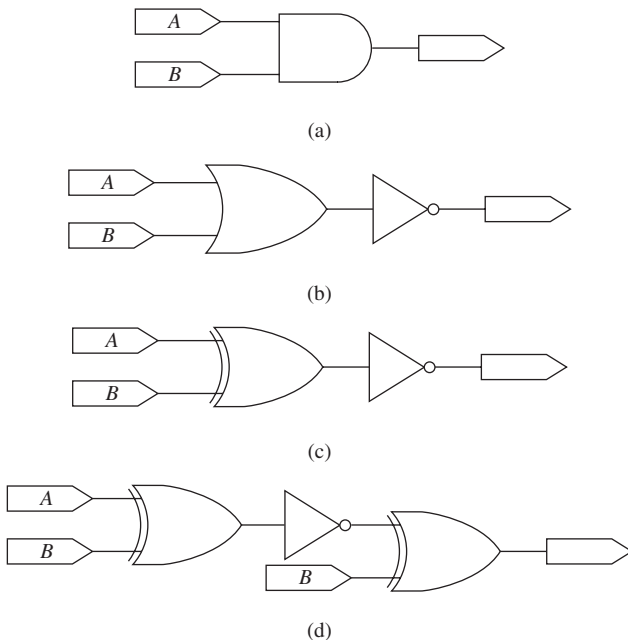

FIGURE P10.45 Circuit for Problem 10.45.
- 10.45** (A)* If $A = 0, B = 1$, which circuit as shown in Figure P10.45 will output 1?
10.71 (B)* If $A = 0$ and $B = 1$, use PSpice to find the logic circuit which generates an output of 1 in Figure P10.45.